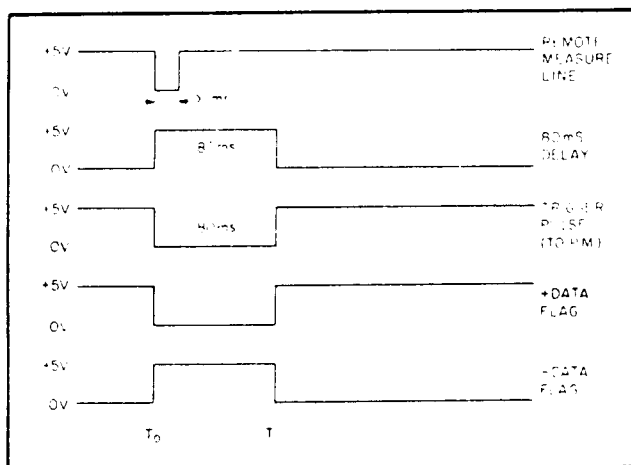

Figure 3-11. Flag Timing Non-Delayed Mode.
Mode line in a "true" condition (gnd. or -0.5 V to +0.4 V). When the Trigger Mode line is grounded, the timing sequence is in the Non-Delayed Mode which operates as shown in Figure 3-11.
**3-84. Non-Delayed Mode.** In Figure 3-11, the Remote Measure line is pulled low at T0 by the external controller. This immediately initiates the 80 ms delay, triggers the panel meters and sets the + and - Data Flags. At the end of the 80 ms delay (T1), the Data Flags are reset to indicate that a reading has been taken.